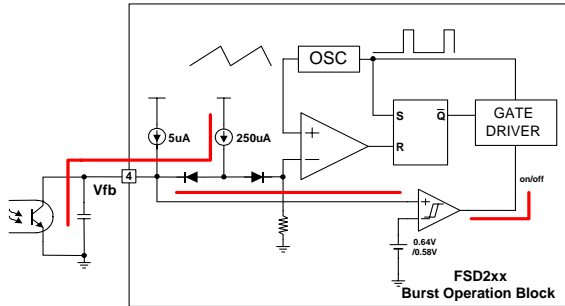
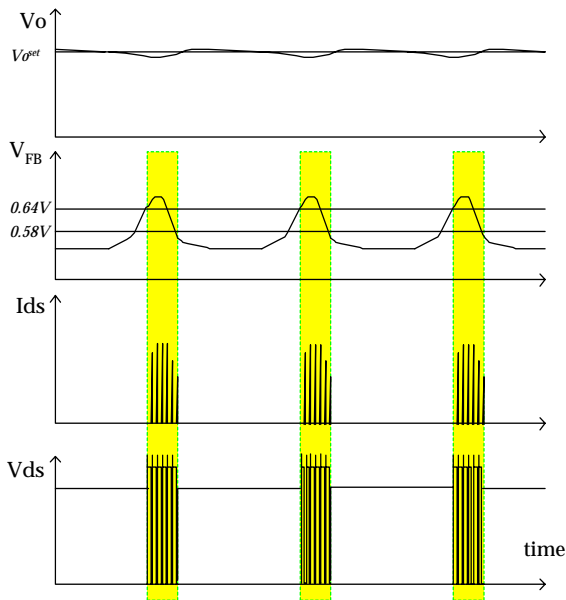

Figure 12. Circuit for burst operation
Figure 13. Burst mode operation
6. Burst operation : In order to minimize the power dissipation in standby mode, the FSD200B/210B implements burst mode functionality (see figure 12). As the load decreases, the feedback voltage decreases. As shown in figure 13, the device automatically enters burst mode when the feedback voltage drops below VBURL(0.58V). At this point switching stops and the output voltages start to drop at a rate dependant on standby current load. This causes the feedback voltage to rise. Once it passes VBURH(0.64V) switching starts again. The feedback voltage falls and the process repeats. Burst